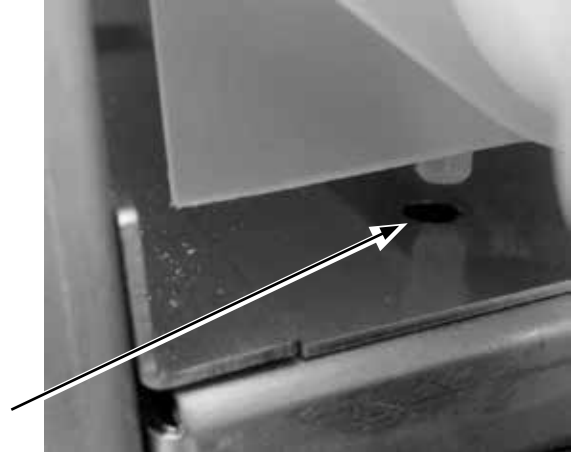

Figure 1
2. Remove powder hoppers by lifting the front of the powder hopper until the peg on the bottom of the hopper clears the hole in the mounting plate (see Figure 1). Then pull the hopper forward to remove.